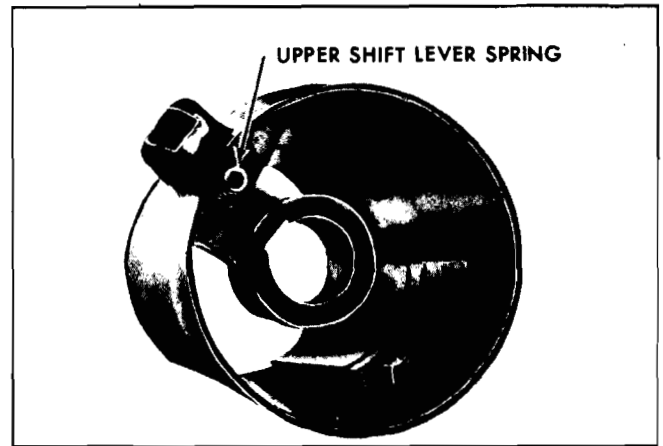

Fig. 9-35 Upper Shift Lever Spring
27. Remove upper shift lever spring from shift bowl by winding spring up with pliers and pulling out (Fig. 9-35).